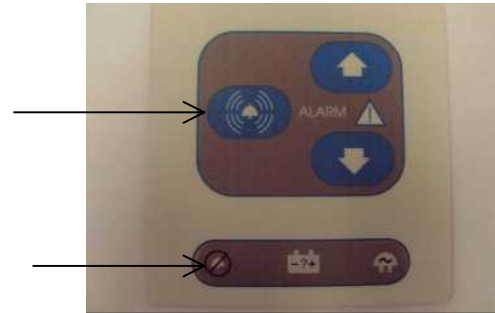

Figure 2-17 Alarm Button & Indicator
- Press the SILENCE ALARM button. The ALARM DISABLED INDICATOR will flash and whichever parameter, ICP or CPP, was in alarm mode will now be silenced for 3 minutes and that parameter will flash on the screen (Figure 2-17).